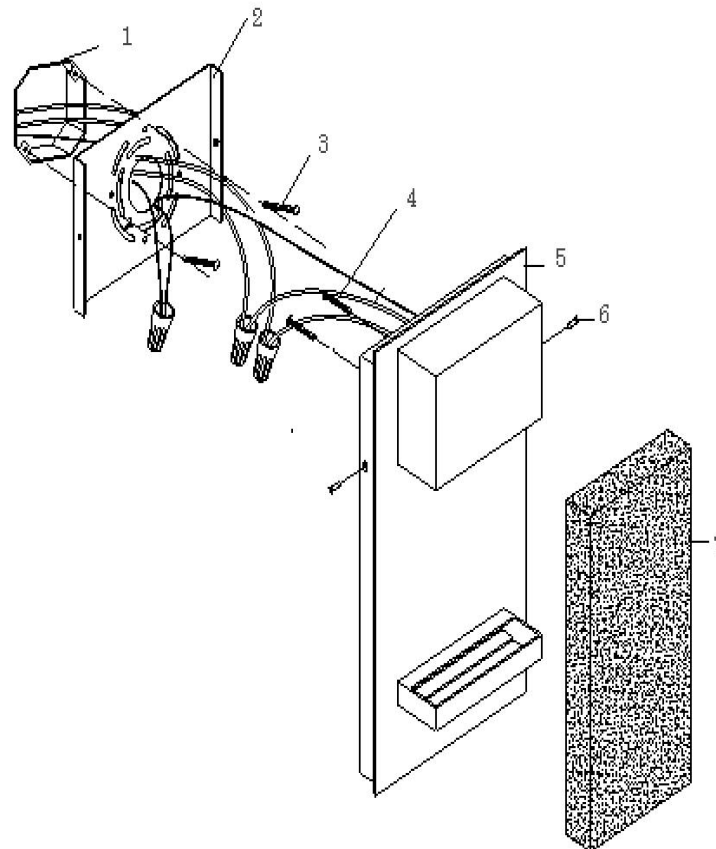

Fig.1
1. Pull the power supply wires out from the outlet box (1) Attach the mounting backplate(2) to the outlet box using two mounting screws (3). as shown in **Fig.1**